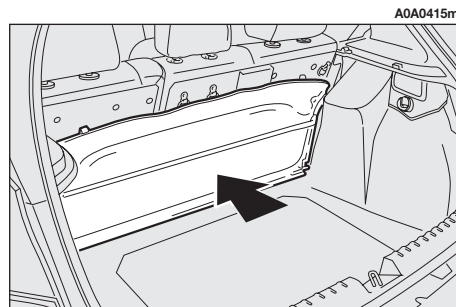

fig. 18
- crossways in the luggage compartment as shown in **fig. 18**;